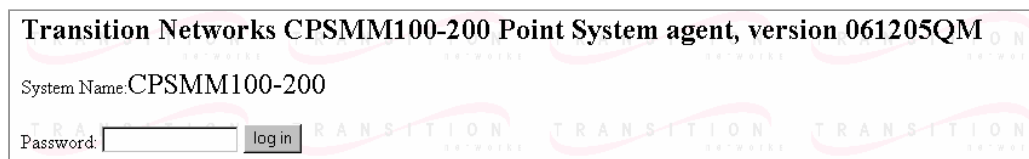

Figure 37: Chassis Agent (MMU) Log In Screen
3.	Click the GO button to bring up the password screen, shown in Figure 37.